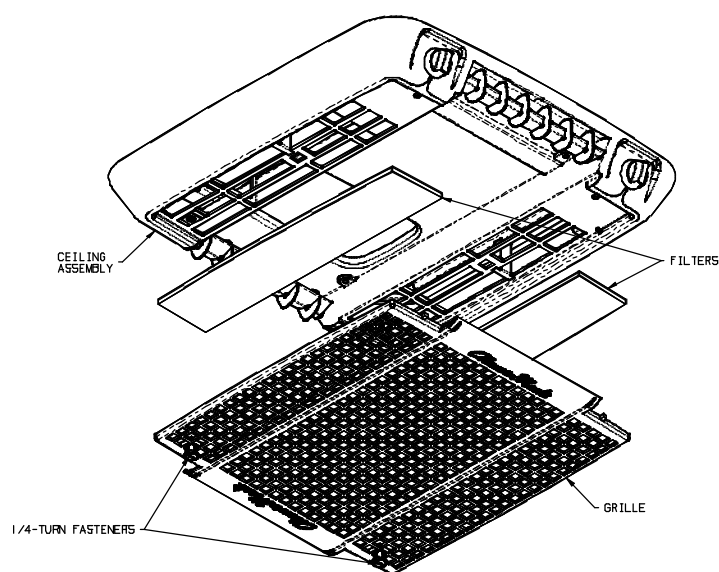

FIGURE 2
1. Disengage the two 1/4 –turn fasteners that secure the ceiling assembly grille to the ceiling assembly (See Figure 2).
3. Take filters out and either clean or exchange them with new filters (See Figure 2).